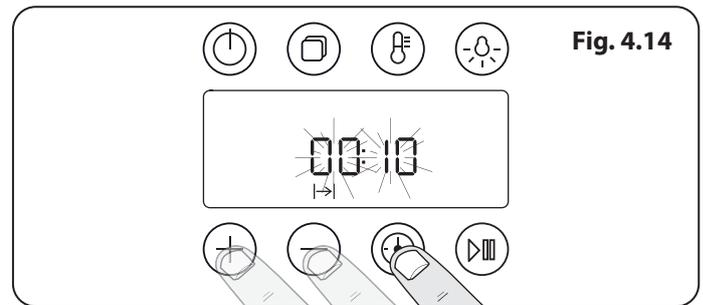

Fig. 4.14
2. Tap the timer button to set the 'cook period' hours using the [+] or [-] buttons. Tap the timer button again to set the minutes using the [+] or [-] buttons (**Fig. 4.14**).